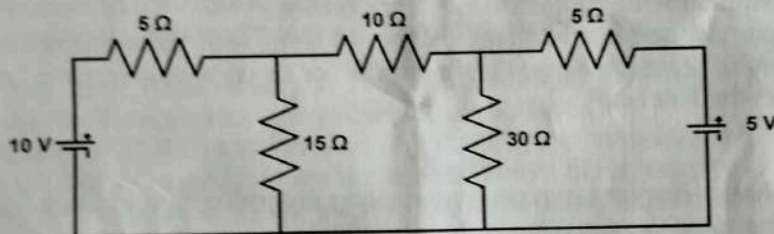

Figure 2a
- For the circuit shown in Figure 2a find the current through the resistors using mesh analysis. 8 1